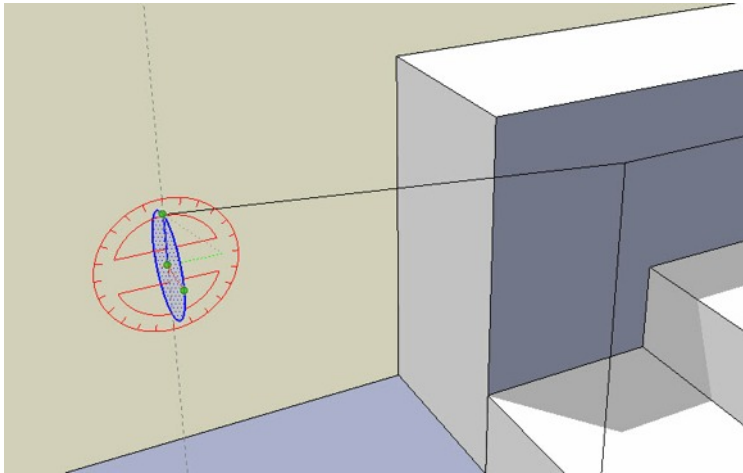

Figure 74. The rotated circle
- Select the face of the circle as shown in Figure 74.
- Move the cursor so that it is at a point 90° from the perimeter point you just chose and click once. You will see the circle rotate through 90° as shown in Figure 74.